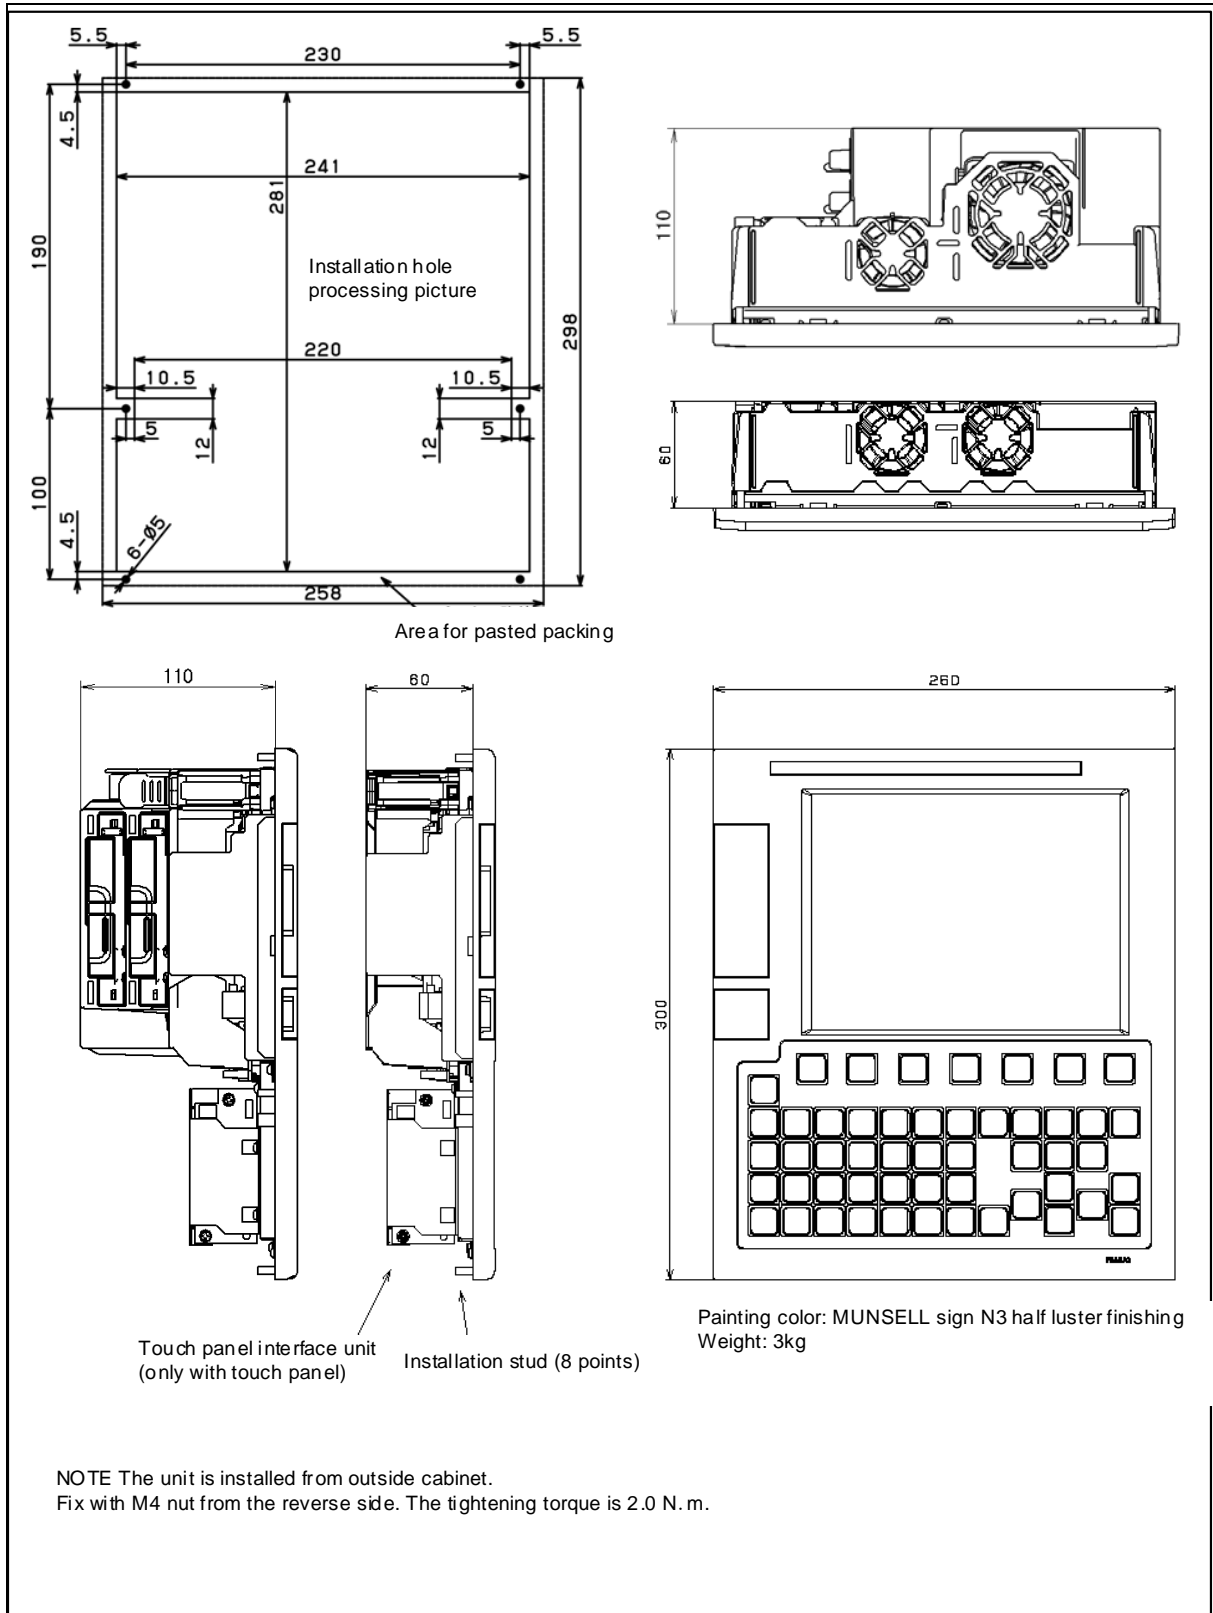

Fig. U2 Control unit (8.4" color LCD/MDI vertical)
8.4" color LCD/MDI vertical	Fig. U2